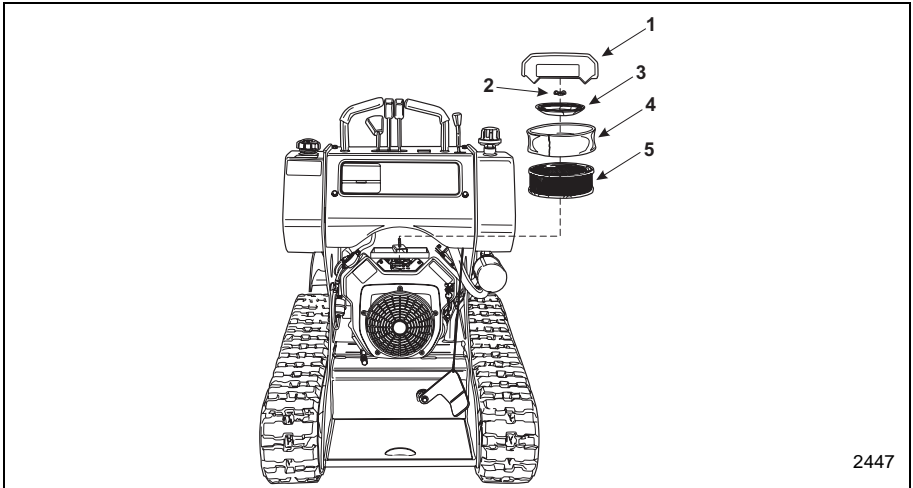

Figure 4-3 Air Filter Assembly
- b. Remove the air filter cover (Item 1, **Figure 4-3**) and inspect the outer air filter sleeve (Item 4, **Figure 4-3**). The outer air filter sleeve will trap only the largest dirt particles. Remove the air filter sleeve and clean as needed.
- c. If the sleeve is dirty, loosen and remove the wing nut (Item 2, **Figure 4-3**) holding the air filter top plate (Item 3, **Figure 4-3**).
- d. Remove and inspect the main air filter (Item 5, **Figure 4-3**). If the air filter is dirty, replace the filter and outer air filter sleeve with a genuine BOXER repair part.